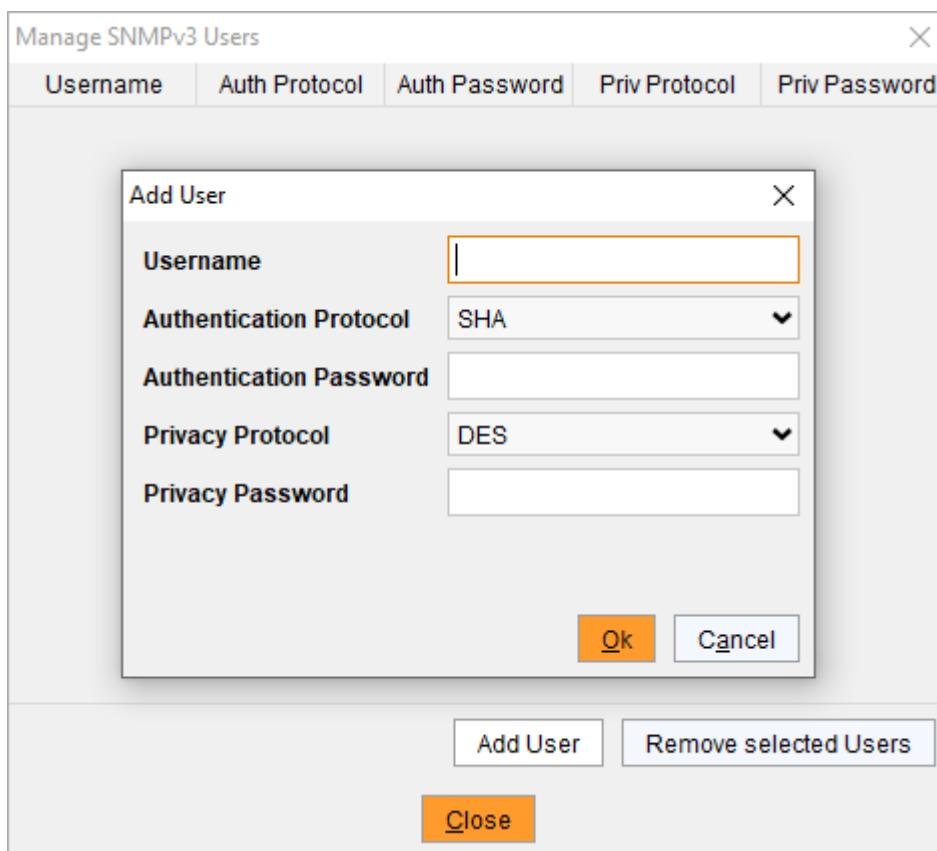

Fig. 32 Management software menu **Extras - Options - SNMP - Manage SNMPv3 Users - Add User**
- Ensure the login data (username and password) in both settings are identical (see Fig. 32).